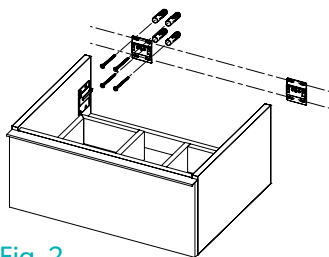

Fig. 2
7. Using a spirit level, mark a horizontal line below the pencil mark, taking into account the location of the furniture hangers. Place brackets on the pencil line paying attention to the distance between the furniture hangers. Carefully mark the position of the holes using a soft pencil. (Fig. 2 & 3).
10. Fix the brackets to the wall using the screws provided (Fig. 2 & 3).